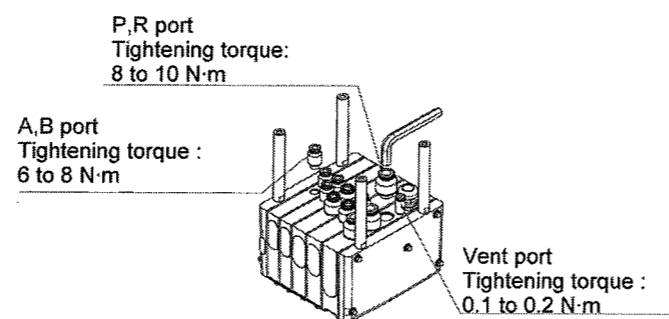

Figure 13
A vent port is located on every SUP/EXH manifold slice (see Figure 13 in section 4.1). As the product is IP69K rated with potentially water and wet air locally the exhaust and vent ports should be vented away from the wet area to prevent ingress into the product.
- Tie-rod screws should be tightened in two stages in the recommended sequence (1→5) indicated in Figure 13. This ensures even compression of the slice gaskets. (1→5 – tight, then 1→5 to torque.)